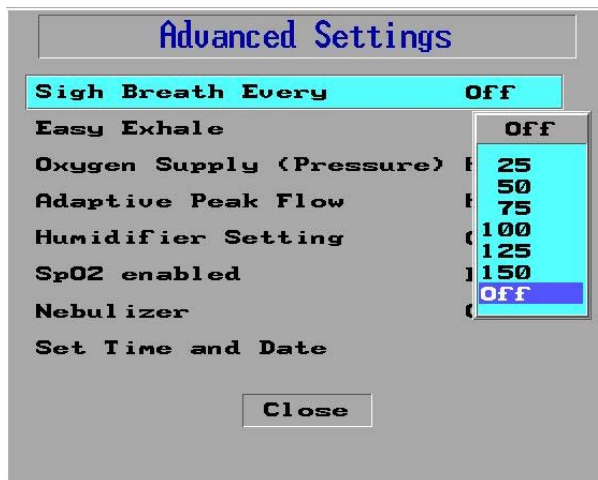

Figure 78: The Sigh Breath Selection Pop-Up Window
3. Press the Control Knob. A pop-up window appears with the values 25, 50, 75, 100, 125, 150, and Off (Figure 78):